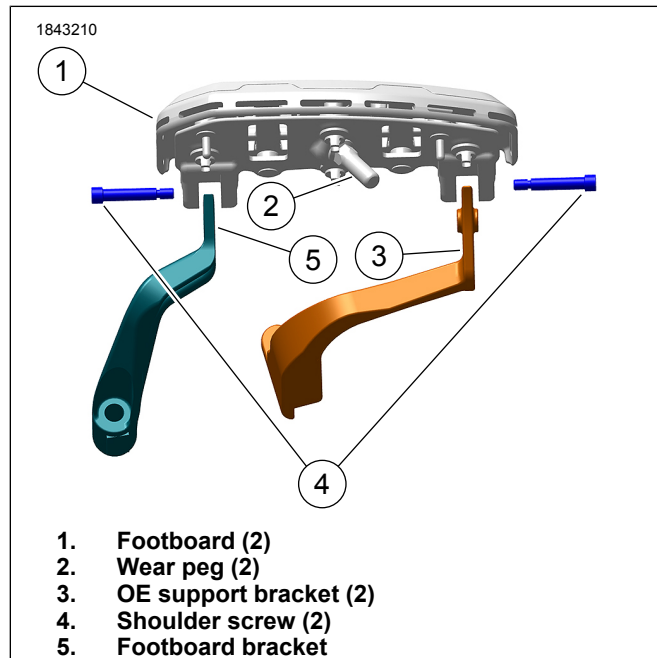

Figure 3. Footboard Assembly
1. See Figure 3. Remove existing wear peg (2) from footboard.
2. Apply 2 or 3 drops of threadlocker to threads of **new** wear peg (2) and install.